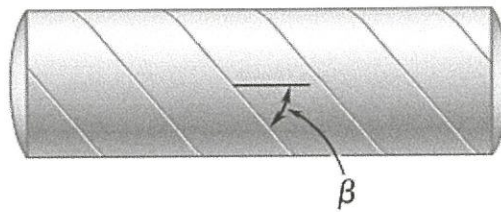

Figure Q5
- Q5.** The steel pressure tank shown in **Figure Q5** has a 750 mm inner diameter and a 9 mm wall thickness. Knowing that the butt welded seams form an angle  $\beta = 50^\circ$  with the longitudinal axis of the tank and that the gage pressure in the tank is 1.4 MPa,